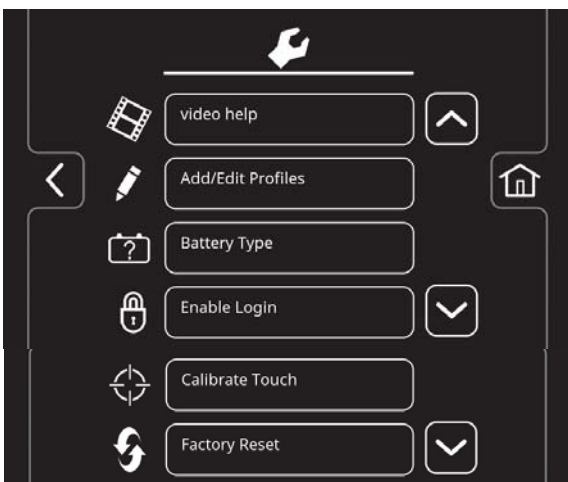

FIG. 157
- The machine's setting screen provides access to the following menu (Figure 157).